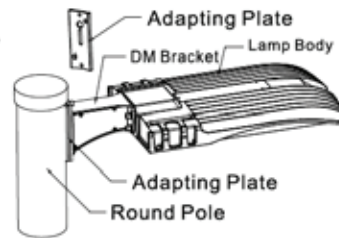

Figure 3-3
- Notice: Round pole should be with adaptive plate. (Figure 3-3)